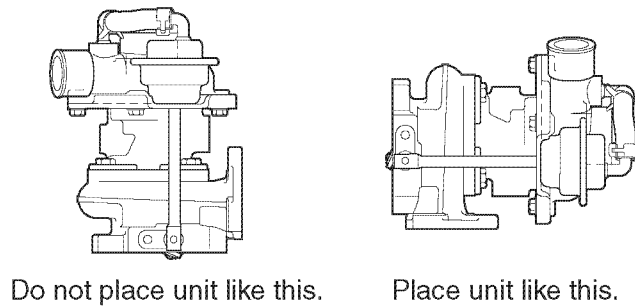

Figure 8-15
- Remove the turbocharger from the engine to perform maintenance. Be sure to keep the unit horizontal when you remove it from the engine (**Figure 8-15**). Holding the unit vertically can cause engine oil to leak into the compressor housing or turbine housing, leading to abnormal operation after reassembly.